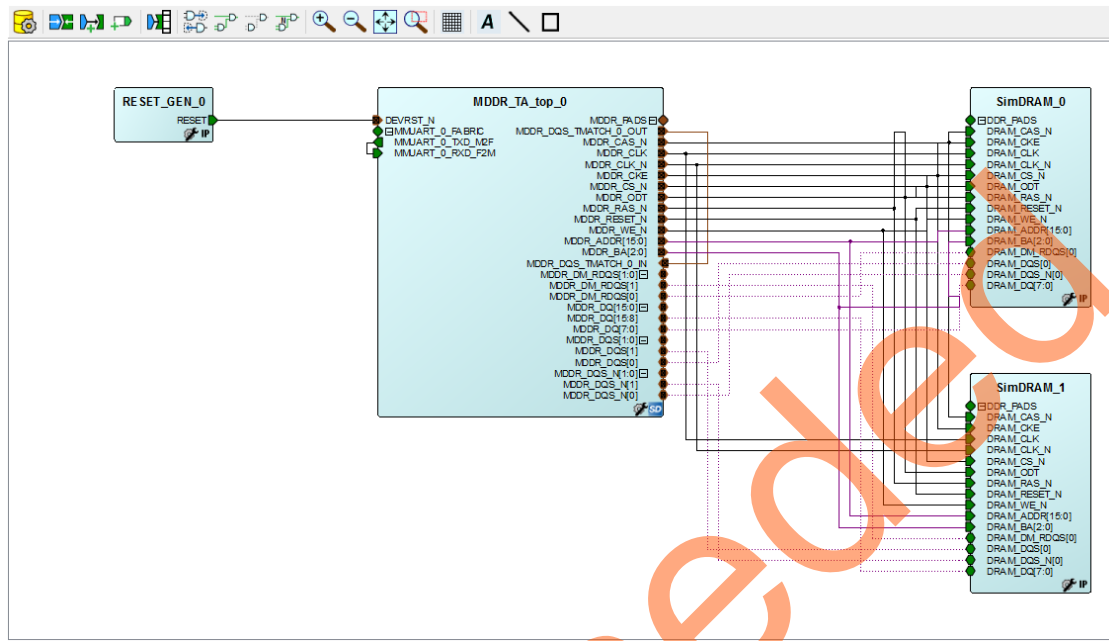

Figure 25 • SmartDesign Testbench for Example Design with Microsemi DDR3 SDRAM VIP
- Make the connections as described in "Simulation using Microsemi DDR3 SDRAM VIP Model" section on page 23. The connections are same as the Micron model. Figure 25 shows the SmartDesign testbench for the example design with Microsemi DDR3 SDRAM VIP model.